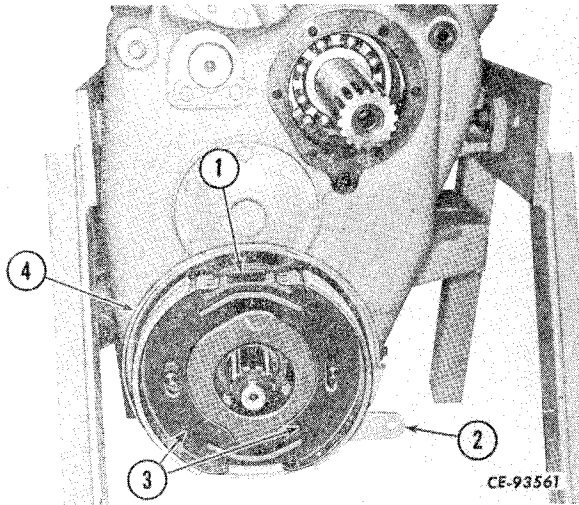

Figure 4-87
Install lever (2, Fig. 4-87) on backing plate (4), be certain roller is installed on the right hand pawl and rides on top of lever. Left hand pawl is inserted in hole of lever. Install brake shoes (3) and secure with springs (1).